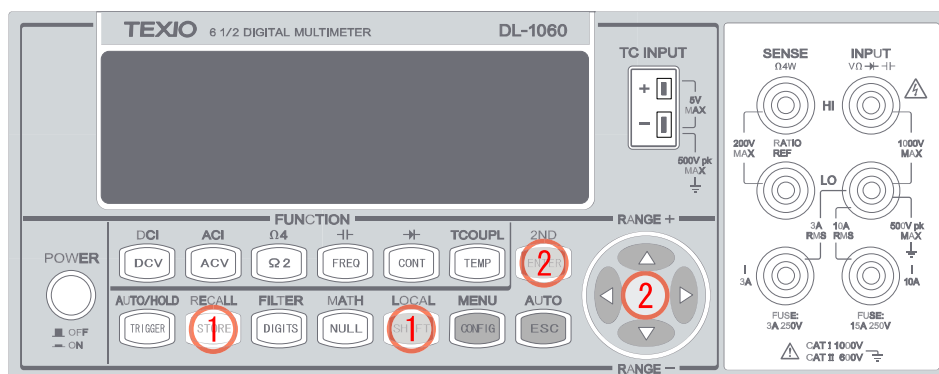

Figure 3-32
1. Press SHIFT + CONFIG buttons as shown in **Figure 3-32**.